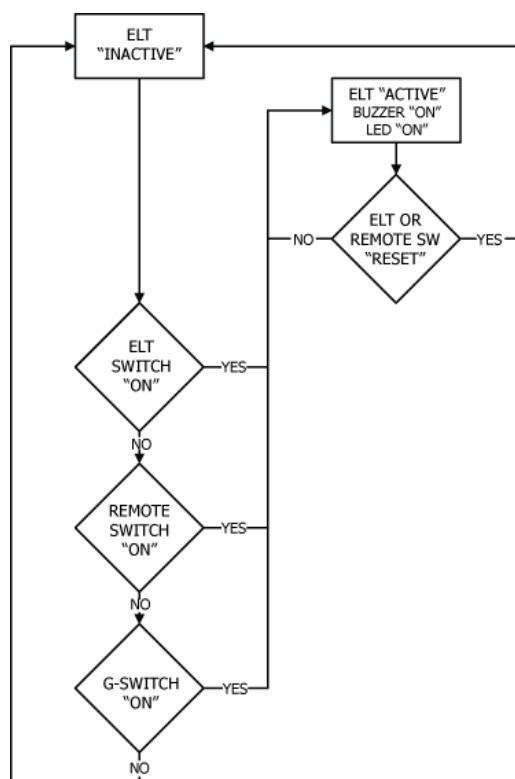

Figure 6 ELT Operational Flow Diagram
- 1) See Figure 6 ELT Operational Flow Diagram.